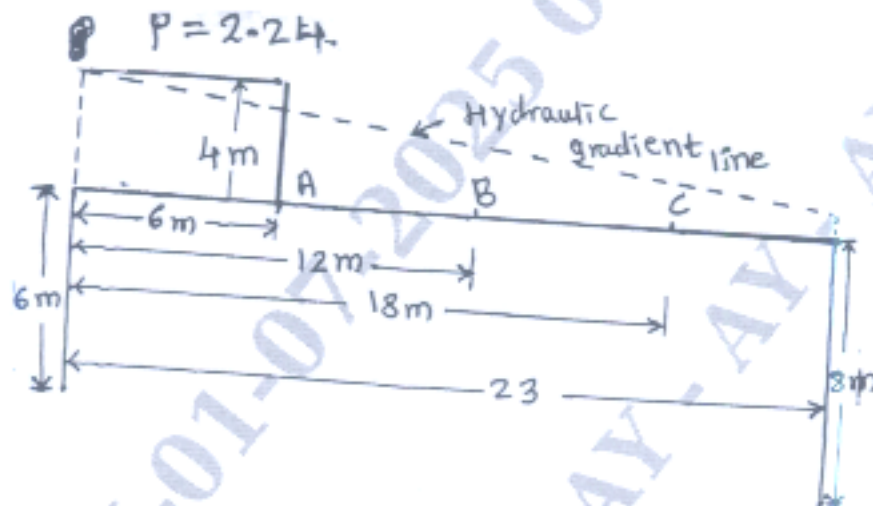

Fig. Q.9(b) Hydraulic Structure
b. Fig.Q.9(b), shows the section of hydraulic structure founded on sand. Calculate the average hydraulic gradient. Also find the uplift pressure at point 6,12 and 18 m from the U/S ends of the floor and find the thickness of the floor at these points taking $P = 2.24$. 10 L3 CO1